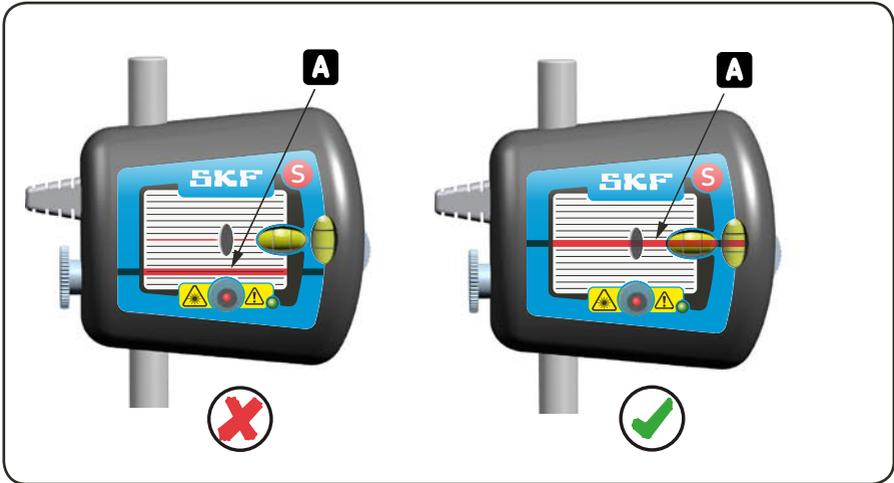

Fig. 11. Hit the target
b) Aim the laser lines so that they hit in the centre of the target of the opposite measuring unit (fig. 11).